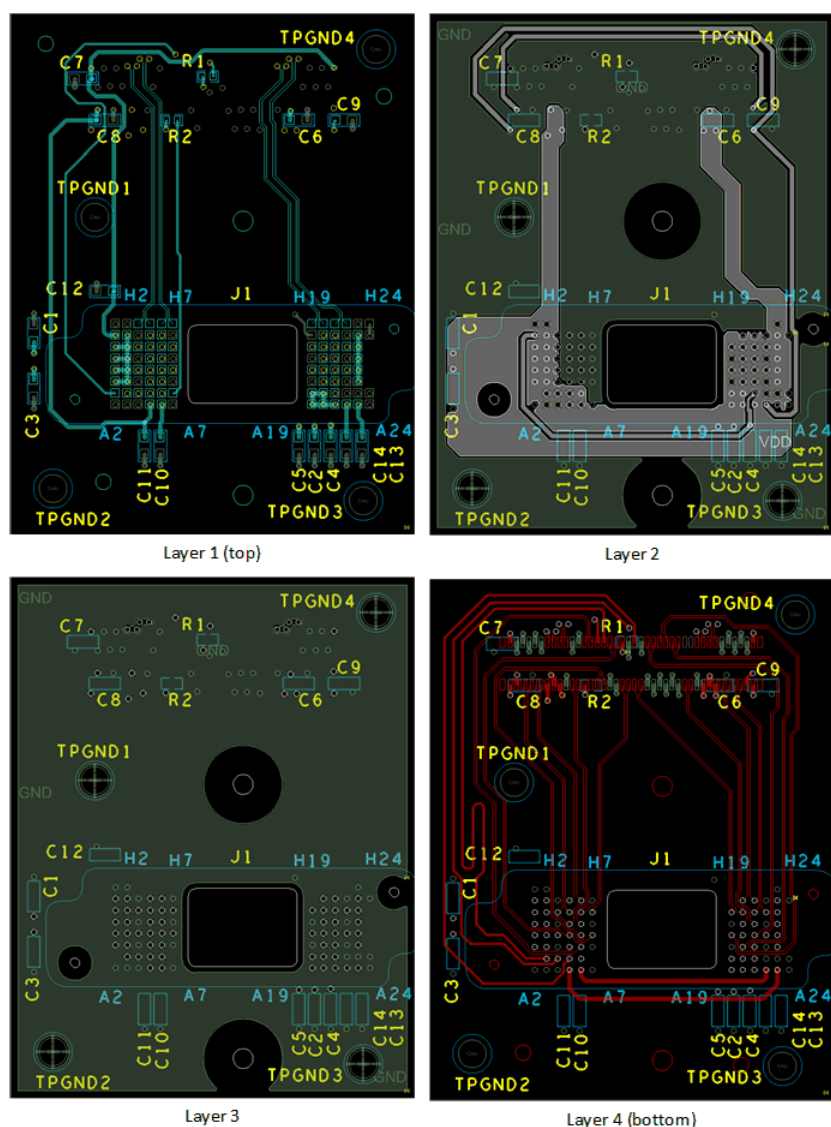

Figure 10-1. Power Supply Connections
- Minimize vias, layer changes, and turns for the HS bus signals. Refer to Figure 10-1.
- Minimum of two 220-nF (35 V) capacitors - one close to V_{BIAS} pin. Capacitors C10 and C14 in Figure 10-1.
- Minimum of two 220-nF (35 V) capacitors - one close to each V_{RST} pin. Capacitors C11 and C13 in Figure 10-1.
- Minimum of two 220-nF (35 V) capacitors - one close to each V_{OFS} pin. Capacitors C4 and C12 in Figure 10-1.
- Minimum of four 220-nF (10 V) capacitors - two close to each side of the DMD. Capacitors C1, C3, C2, and C5 in Figure 10-1.